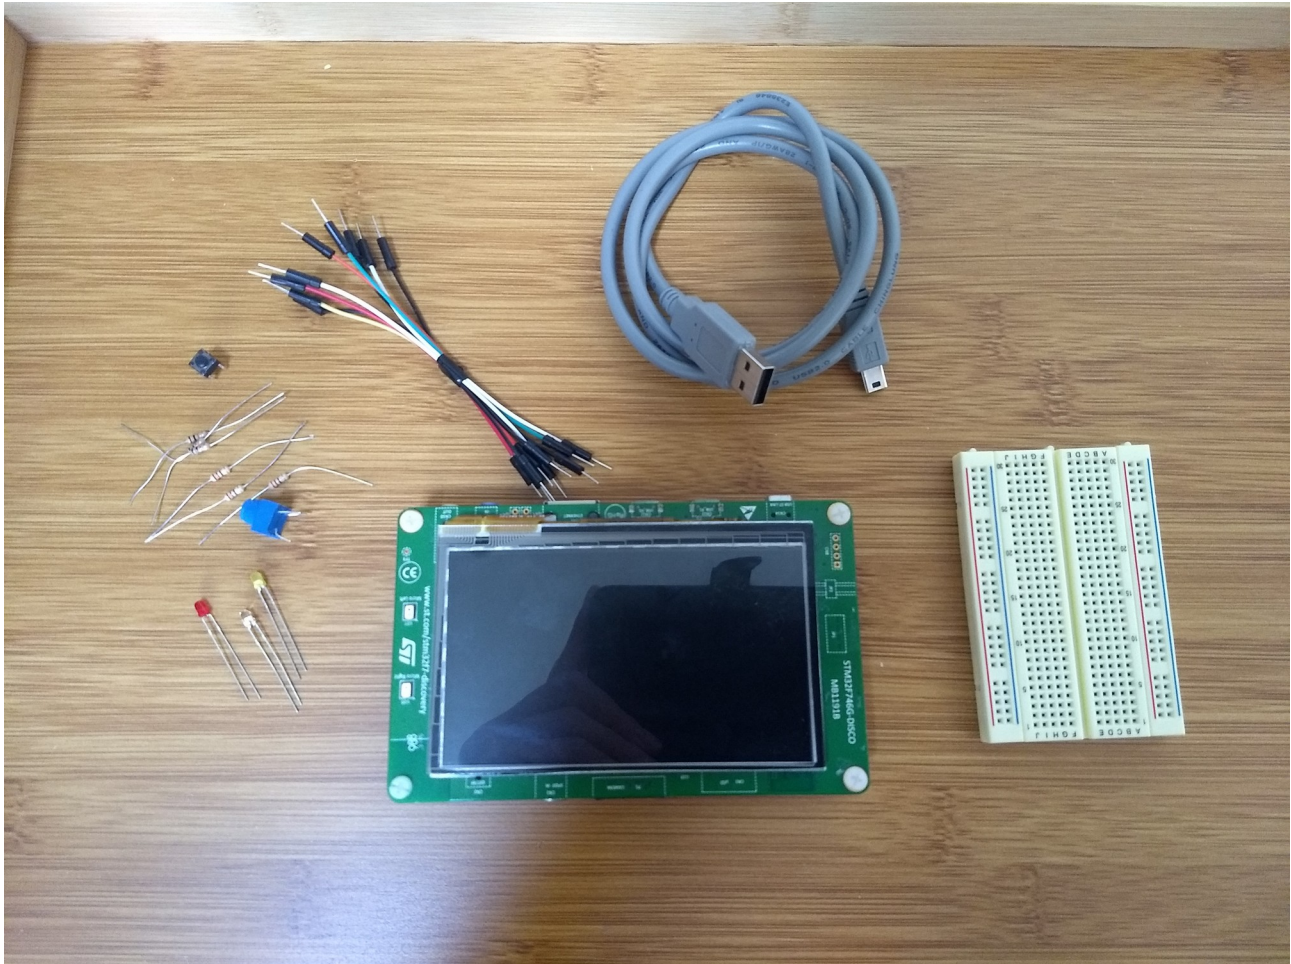

Figure 1 – The necessary equipment for this lab (don't worry if you have LEDs of a different colour or different potentiometers)
1. Check that you have all the necessary equipment (see Figure 1)!